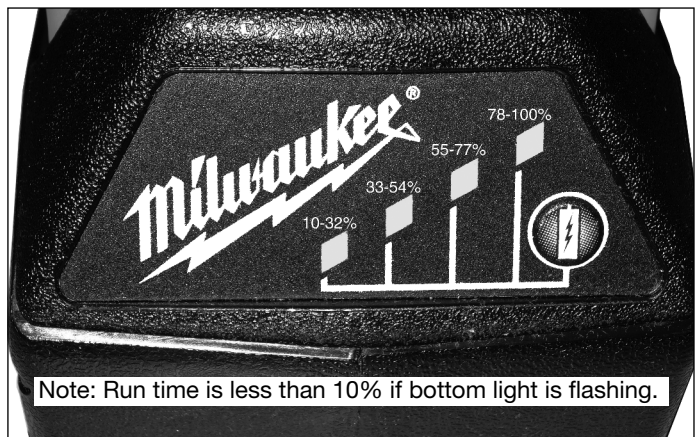

Figure 9, Fuel Gauge
**IMPORTANT:** Run time percentages shown in Figure 9 are approximate. Run time between battery charges is dependent on the application, pump run time, pressure setting and other factors.